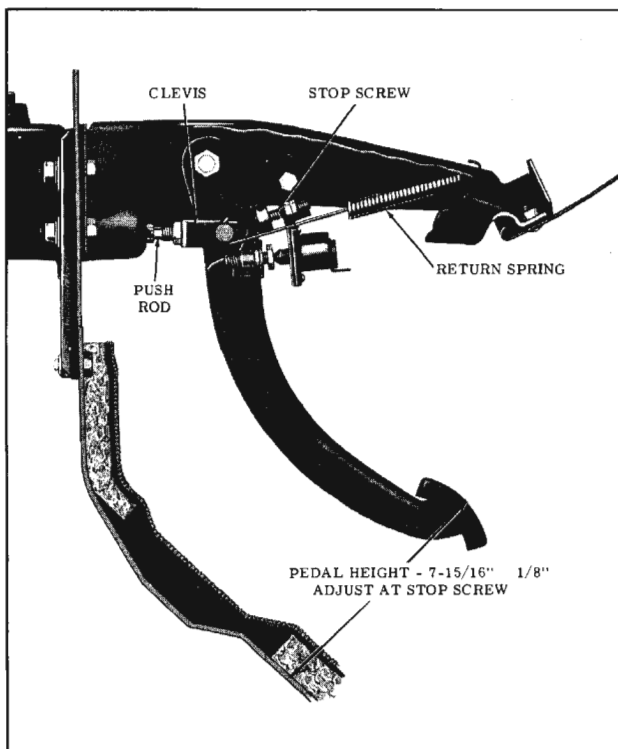

Fig. 7-4 Brake Pedal Adjustment
2. Turn back floor mat and check pedal height (from floor pan to top of pedal pad). If dimension is not  $7-15/16'' \pm 1/8''$ , loosen lock nut and adjust stop screw. (Fig. 7-4) Tighten lock nut and recheck adjustment.